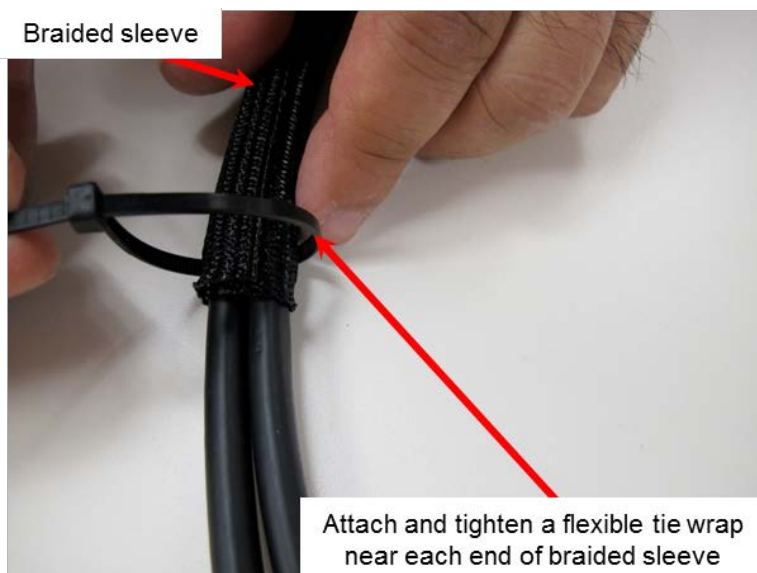

Figure 9: Binding Old and New Cables into a Pair
- 6.2. Use flexible tie wraps from the kit to bind old and new cables into a pair. If a sleeve is used, position the tie wraps near the ends of the sleeve as shown in Figure 9